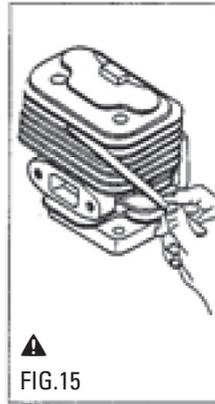
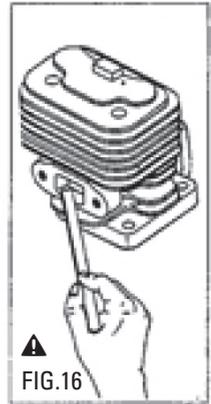

FIG.15
FIG.16
3. (FIGS. 15 & 16) Muffler/Exhaust Port/Cylinder
- At the end of each season (or after 25 hours of use) the muffler must be removed and cleaned to prevent carbon accumulation. At the same time, the exhaust port should be cleaned. After removing the muffler, crank the engine over until the piston completely covers the exhaust port. This will prevent any foreign material from entering the engine. Now clean the exhaust port using a wood scraper only (FIG. 16). At the same time, the cylinder cooling fins should be inspected and cleaned. If debris is collected in the cooling fins, the engine will run hot and this could result in serious engine damage. Use a wood scraper for cleaning the cylinder cooling fins (FIG. 15).